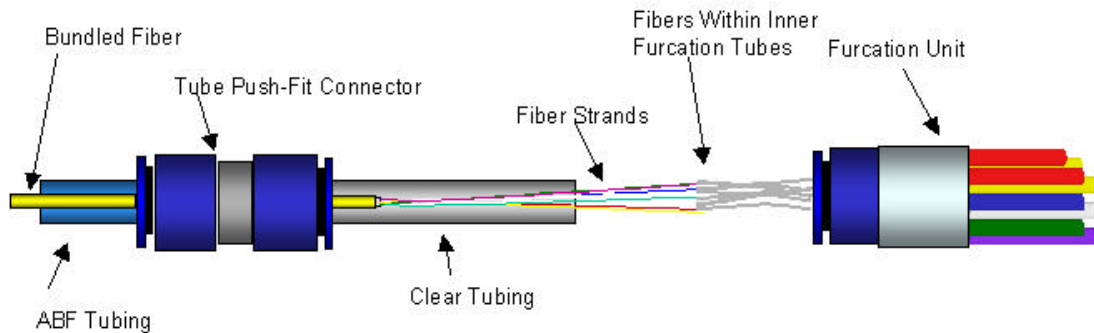

Figure 4. Feeding fibers into the furcation unit.
Step 8 – Insert each individual fiber into one of the loose tube furcation cable buffer tubes within the furcation unit (see figure 4). Feed each fiber through the furcation unit until all of the fibers are protruding from the ends of the individual loose tube furcation cables.